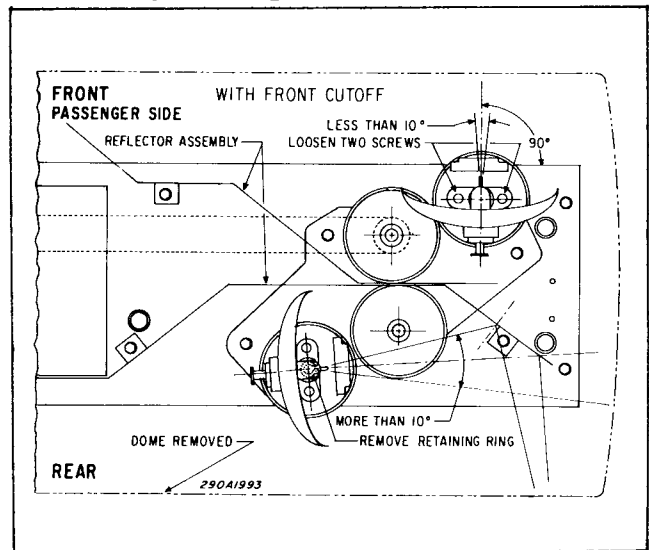

Figure 4-5. Reflector Assembly Adjustment. (Front Cut-Off).
b. On units with front cut-off, the front reflector assembly should be perpendicular to the front of the light bar. The rear reflector should be aimed at the center of its mirror as shown in Figure 4-5.